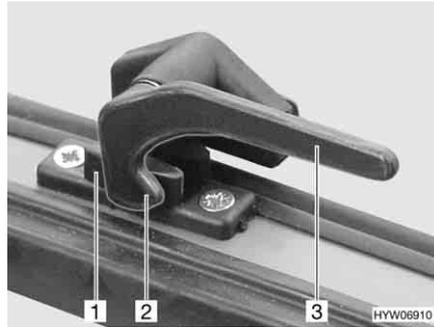

Fig. 55 Catch lever in "closed" position
- Turn the catch lever (Fig. 55,3) a quarter turn towards the centre of the window.
- Turn the catch lever (Fig. 55,3) a quarter turn towards the window frame. The locking catch (Fig. 55,2) is located on the inside of the window catch (Fig. 55,1).
- "Firmly closed" (Fig. 55).